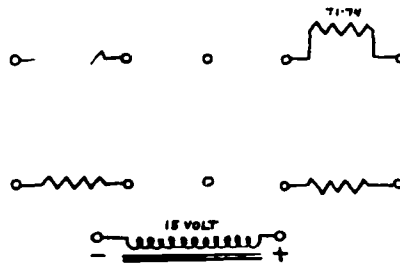

Figure 44
1. Using Figure 44 schematically connect a modified Honeywell Wheatstone Bridge. Indicate with arrows the direction of current flow.